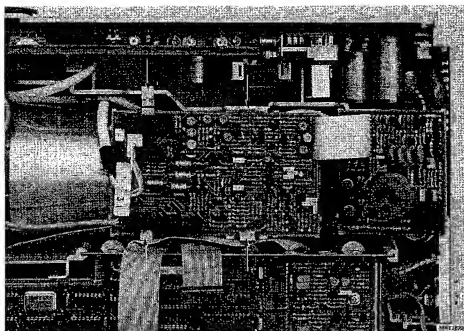

Figure 16.1 Clamping lips for XYZ-amplifier unit
- Pull all clamping lips that secure the XYZ-amplifier unit p.c.b. outwards and take out the complete unit. Refer to figure 16.1.